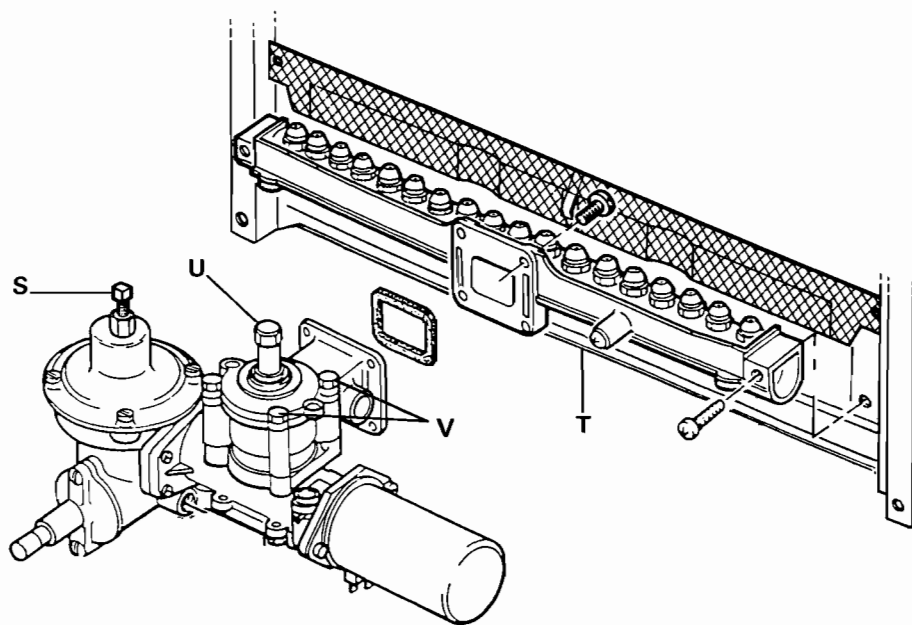

Fig. 15
The boiler is adjusted to a Nominal gas Input of 30 kW (102,500 Btu/h) for Domestic Hot Water which is controlled by a modulating high/low gas valve. Any slight adjustments to this rate may be made by adjusting the Main Gas Governor Screw - See 'S' Fig. 15 -, (Clockwise increases pressure).
This boiler is range-rated with on-off burner action for the central heating output, and is supplied pre-set to its maximum output rate of 23.4 kW (80,000 Btu/h). For lower outputs, the regulator screw (See U. Fig. 15) must be adjusted, (Anti-clockwise to decrease).
With the outer casing still removed, unscrew the burner pressure test nipple screw T (Fig. 15) and fit a suitable pressure gauge.
4. Allow the boiler to warm up for 5 minutes then check the pressure at the burner test point. This should be at maximum rate - 7.6 mbar (3.1 in w.g.). If this is not correct, set the governor 'S' (Fig. 15) to give the correct pressure (Turn clockwise to increase).